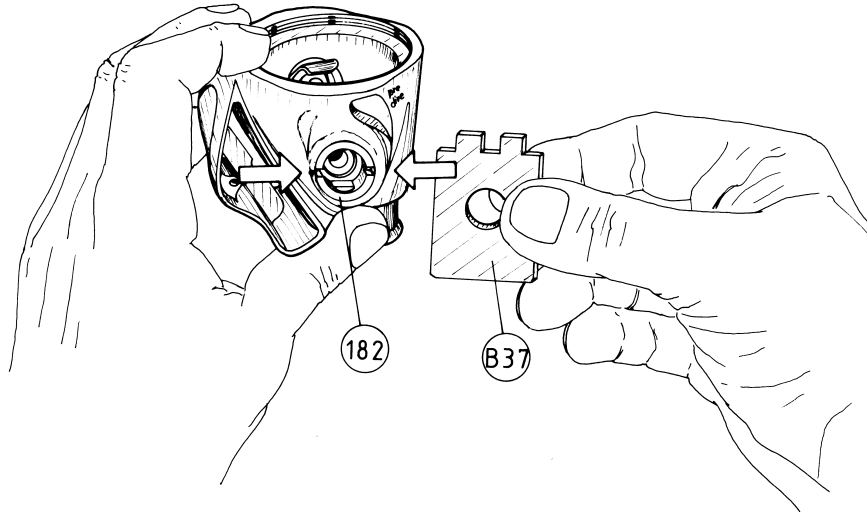

FIG. 8
THE DPD BODY (182) MUST BE FULLY LOCKED DOWN, MAKING SURE THAT ITS GROOVE IS PERFECTLY ALIGNED WITH THE REFERENCE ON THE SECOND STAGE CASE (32) AS ILLUSTRATED IN FIG. 8.